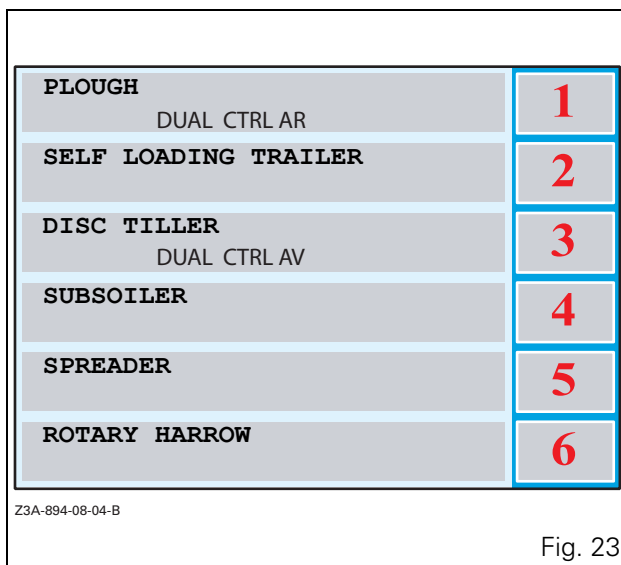
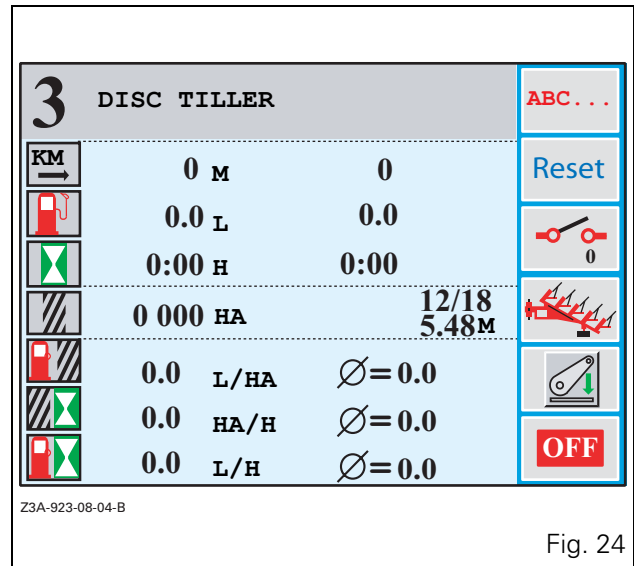

Fig. 23
Fig. 24
- Select an implement to configure in the window (Fig. 23). Example: DISC TILLER by pressing the key «₃. This implement window (Fig. 24) is displayed.